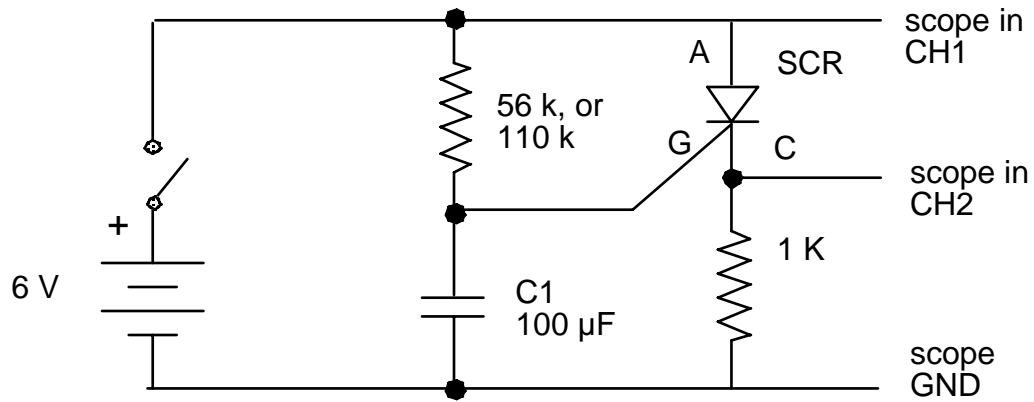

Figure 3-8 RC Timer
☛ The circuit in Figure 3-8 switches on a voltage across the load after a delay. The SCR switches on when the gate voltage (G) exceeds the cathode voltage (C). The gate voltage is developed across the capacitor  $C_1$  by the  $R$ - $C$  combination.